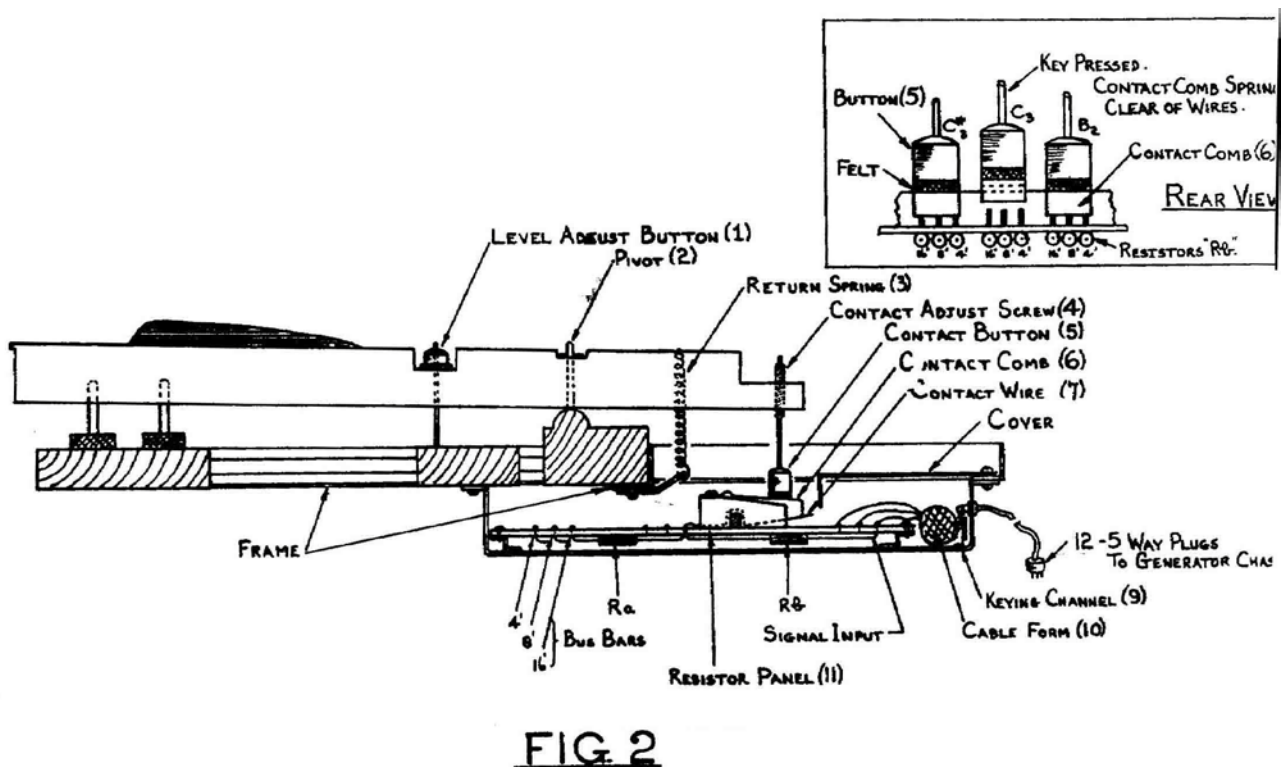

Figure 2. Key Assembly
Figure 2 shows a sectional view of the assembly. With the key at rest the Return Spring (3) causes the front end of the key to be lifted against the Level Adjust Button (1). The rear end of the key is therefore in its lowest position and the Contact Button (5) presses springy comb (6) against the Wire (7).
The Rear View inset drawing figure 2 shows three adjacent keys B², C³ and C#³. Key C3 is pressed and the Button (5) has moved upwards followed by contact Comb (6), which breaks clear of the three wires mounted in the vertical slots. Thus notes C², C³ and C#⁴ are passed to the respective bus-bars 16', 8' and 4'.